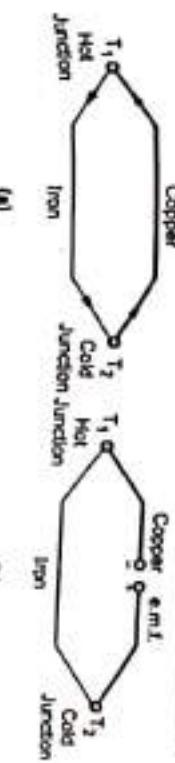

Fig. Q.19.1 Seebeck effect
Ans. : • In 1821, the great scientist Prof. Seebeck discovered that if the two wires of different metals are joined together forming closed circuit and if the two junctions formed are at different temperatures, an electric current flows around a closed circuit. This is called Seebeck effect. He also observed that if the two metals used are copper and iron, then the current flows from copper to iron at hot junction and from iron to copper at cold junction as shown in the Fig. Q.19.1 (a).
• If the copper wire is cut, the e.m.f appears across the open circuit as shown in the Fig. Q.19.1 (b). This e.m.f. is commonly known as Seebeck e.m.f. This Seebeck e.m.f. is proportional to the difference in the temperatures of the two junctions.